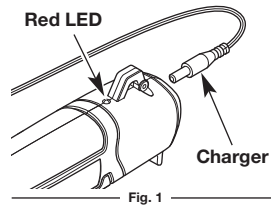

Fig. 1
2. Insert the charger into the back of the unit (Fig. 1).
3. The red LED will illuminate (Fig. 1).